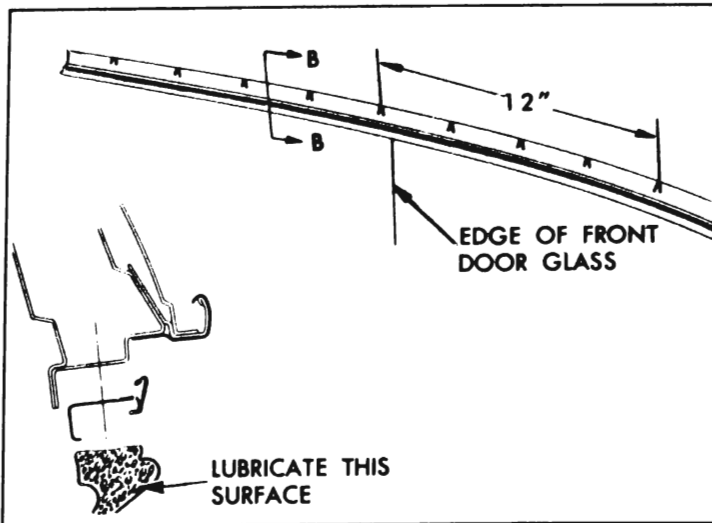

Figure 1-19—Lubrication of Side Roof Rail Weatherstrip
19. *Side Roof Rail Weatherstrip (4-Door Rivieras)*. Apply silicone rubber lubricant to surface of side roof rail weatherstrip indicated in figure 1-19. The weatherstrip section to be lubricated extends from approximately 2" forward of the front door glass frame edge location and rearward for approximately 12" as shown in figure 1-19.